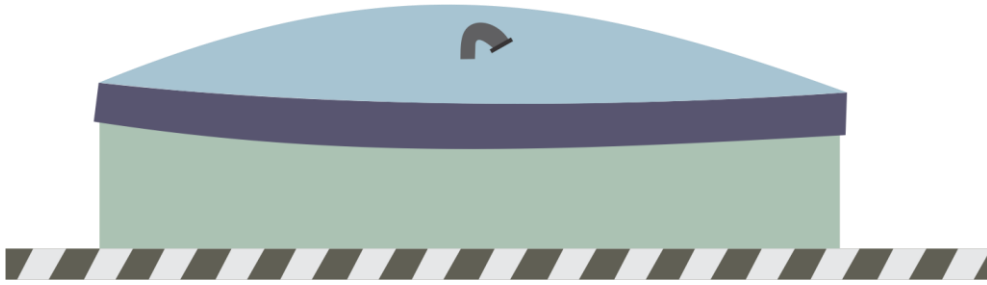

Fig. 2.12: Sump
**3. Sump:** Sump shown in Fig. 2.12 is used as additional storage at village/town level. It is not used for direct distribution of water.